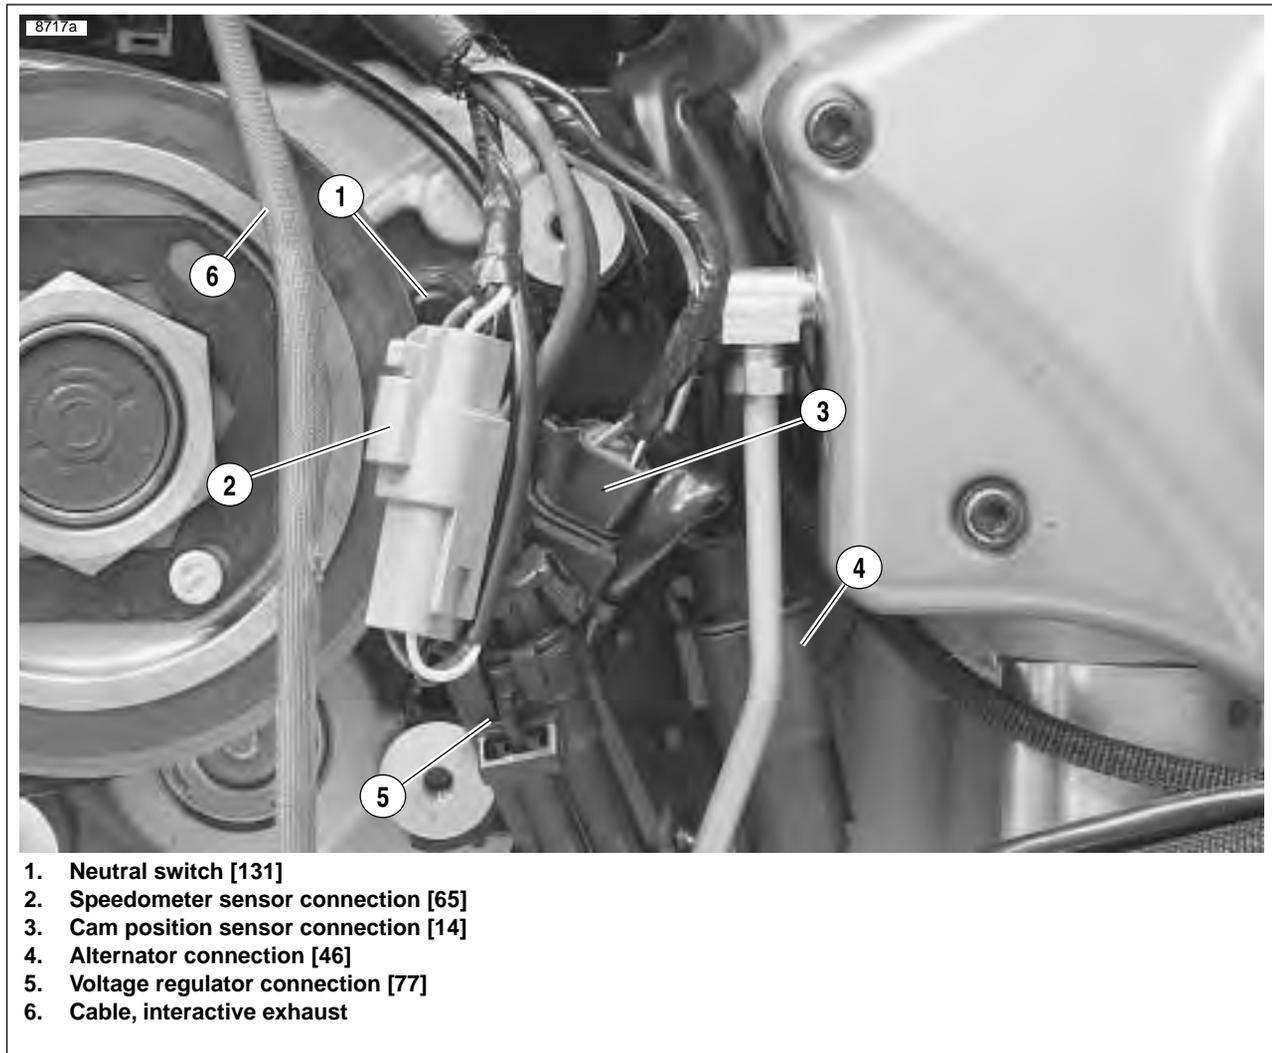

Figure 3-54. Electrical Connections
33. See Figure 3-54. Connect the following electrical components: